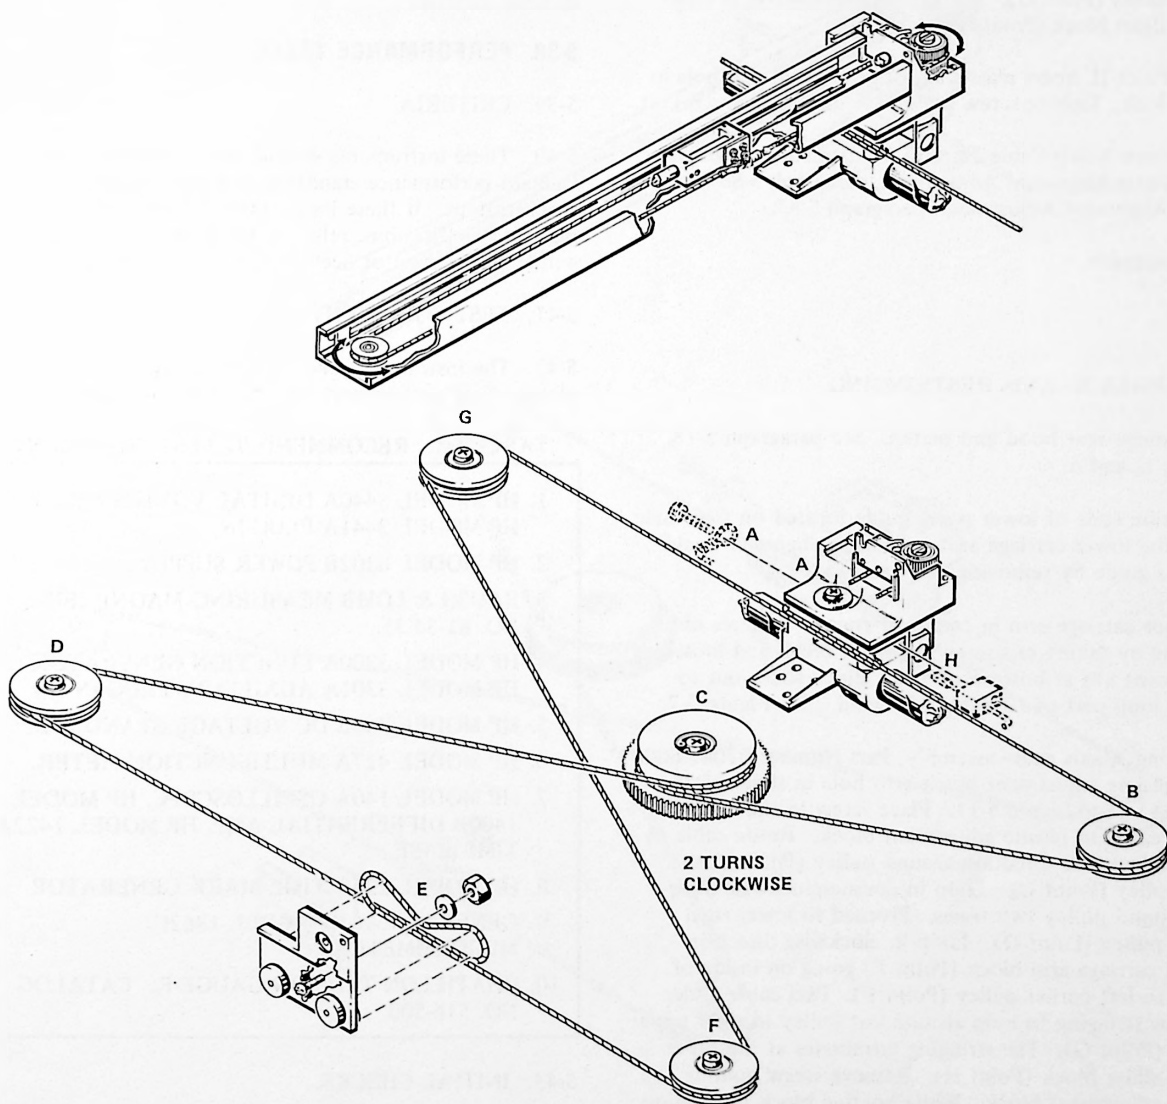

Figure 5-10. X and Y-Axis Restringing, 7044A Model
b. Install new drive cable assembly consisting of cable spring, cable crimps, cable mounting bracket, and seven-strand stainless steel cable as follows (see Figure 5-10):
d. Using X-axis cable assembly, Part Number 07040-60914 attach loop around screw (Point A). See Figure 5-10. Place screw in slider block. Route cable in clockwise direction around pulley (Point B) to drive chain pulley (Point C). Loop in clockwise direction around pulley two times. Proceed to left corner pulley (Point D). Loop in clockwise direction around carriage arm block (Point E) going on outside of pulley to right corner pulley (Point F). Pass cable under previous stringing to loop around last pulley in left upper corner (Point G). The stringing terminates at other end of slider block (Point H).